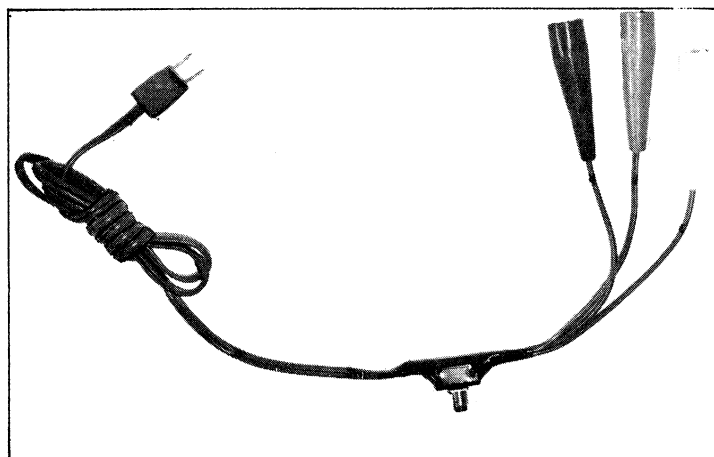

Figure 52
5. Measure up about twelve inches from the alligator clip end of the cord, (it is best to separate the two wires up to this point and connect the other side of the switch to one of these wires). Wrap the switch terminals with insulated tape, see Figure 52.